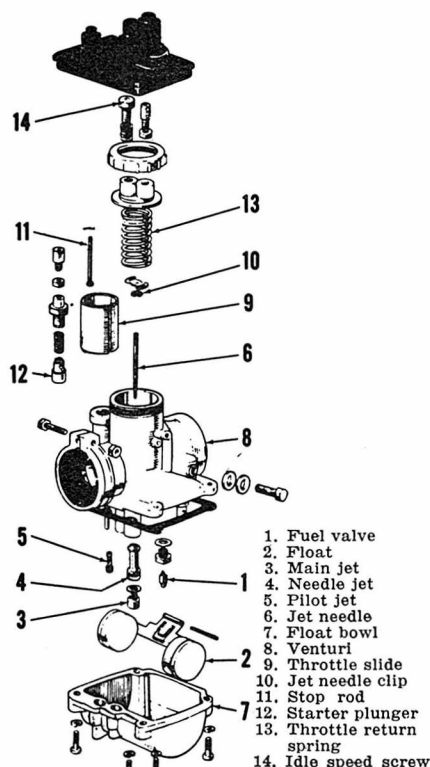

Fig. K5-1—Basic Mikuni sliding valve carburetor is common to all models.
**CARBURETOR.** Refer to Fig. K5-1 for exploded view of typical Mikuni sliding valve carburetor used on all models. Idle air screw on front of carburetor should be 1½ turns out from a lightly seated position on all models except the 100E, G4TR and 100cc G3TR which require 1¾ turns out. Refer to Fig. K5-1 and the following standard specifications: